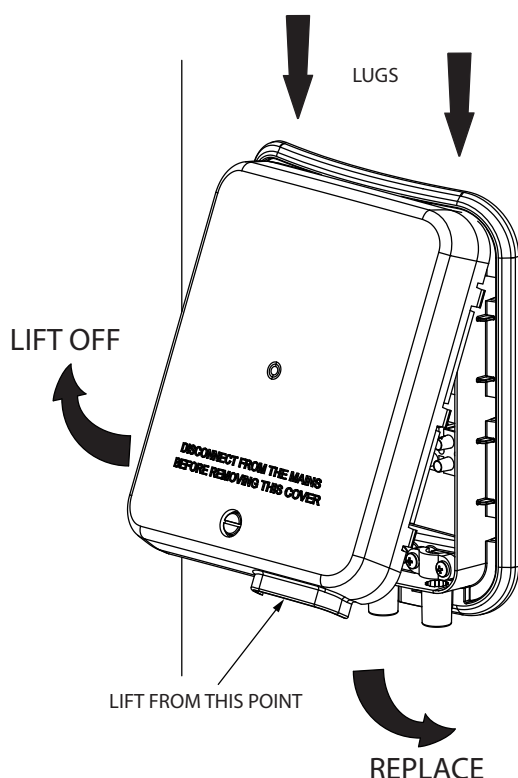

Figure 12: Immersion heater cover removal and replacement
- ▶ The immersion heaters are accessed by removing the Control Cover (see Fig 12).
- ▶ Lift from the bottom of the cover at the point indicated on Fig 12 until cover comes away freely.
- ▶ Replace the Control Cover(s) before operating. To do this tilt the cover and align the top two lugs with the holes in the housing as indicated on Fig 12. Hinge the cover downwards and firmly press the cover until it "snaps" back into place. Secure by tightening the screw on the cover using a flat ended screwdriver. DO NOT OVER TIGHTEN
- ▶ The indirect controls and back-up immersion heater are accessed by removing the Control Cover (see Fig 12).
- ▶ Replace the Control Cover(s) before operating. To do this tilt the cover and align the top two lugs with the holes in the housing as indicated on Fig 12. Hinge the cover downwards and firmly press the cover until it "snaps" back into place. Secure by tightening the screw on the cover using a flat ended screwdriver. **DO NOT OVER TIGHTEN**